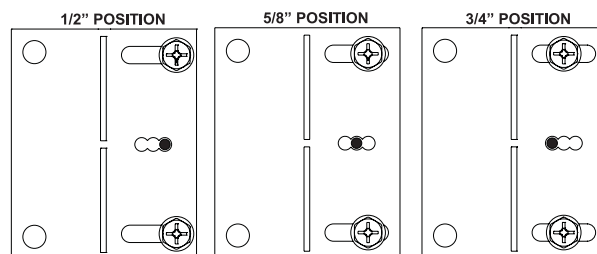

Figure 31
5. Measure from face of fireplace to face of drywall strip to determine final depth and adjust nailing flanges as shown in **Figure 31**.